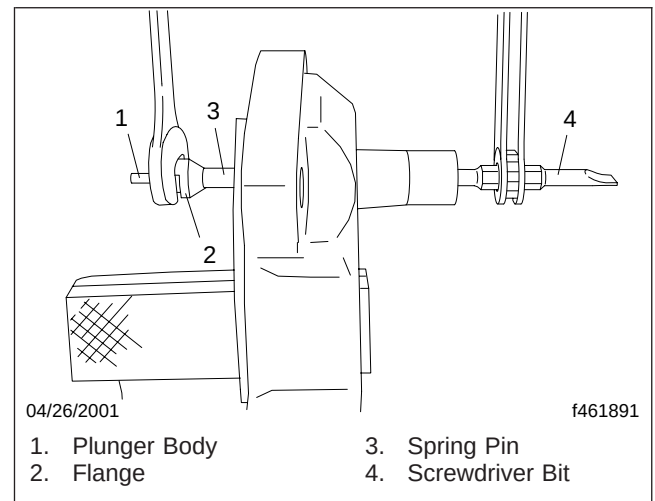

Fig. 2, Flange Removal
7. Carefully insert a screwdriver bit (mounted in a ratchet) into the plunger bore to hold the slotted head of the relief plunger body in place. Using an open-end wrench to hold the flange across the flat sides, carefully turn the flange to remove it from the plunger body; see Fig. 2. Discard the flange.